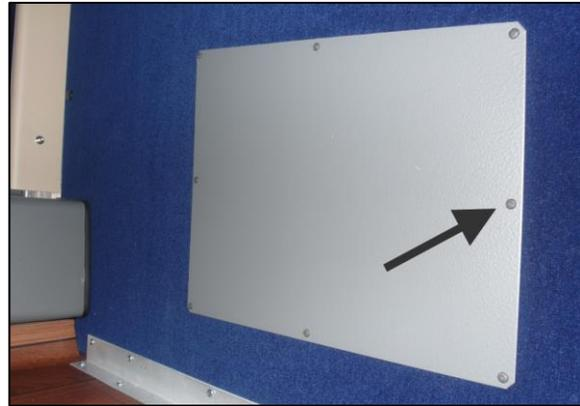

FIGURE 11
14. Remove screws (8) on the lavatory access panel (Figure 11).